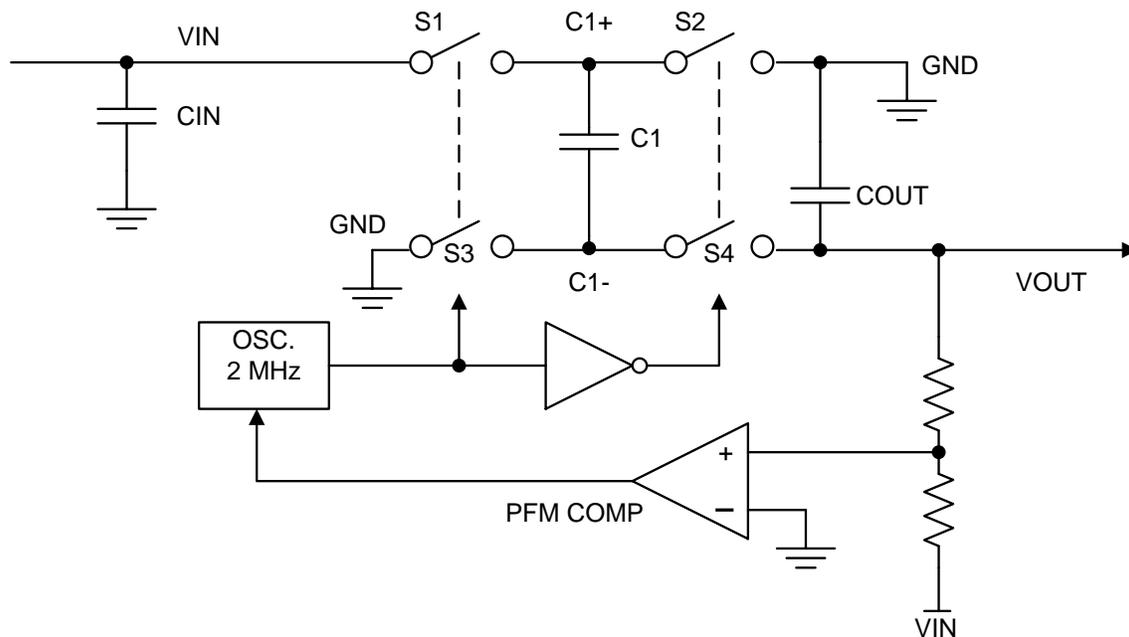

Figure 19. Voltage Inverting Principle
The LM2776 contains four large CMOS switches which are switched in a sequence to invert the input supply voltage. Energy transfer and storage are provided by external capacitors. Figure 19 illustrates the voltage conversion scheme. When S1 and S3 are closed, C1 charges to the supply voltage VIN. During this time interval, switches S2 and S4 are open. In the second time interval, S1 and S3 are open; at the same time, S2 and S4 are closed, C1 is charging C2. After a number of cycles, the voltage across C2 will be pumped to VIN. Since the anode of C2 is connected to ground, the output at the cathode of C2 equals -(VIN) when there is no load current. The output voltage drop when a load is added is determined by the parasitic resistance (Rds(on)) of the MOSFET switches and the equivalent series resistance (ESR) of the capacitors) and the charge transfer loss between capacitors.
- RSW is the sum of the ON resistance of the internal MOSFET switches shown in Figure 19. (1)